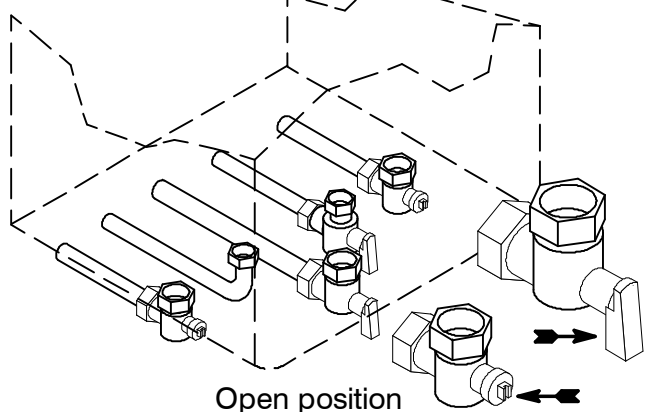

fig. 2.3
- 1 Check that the valves located in the lower part of the boiler are open (fig. 2.3).